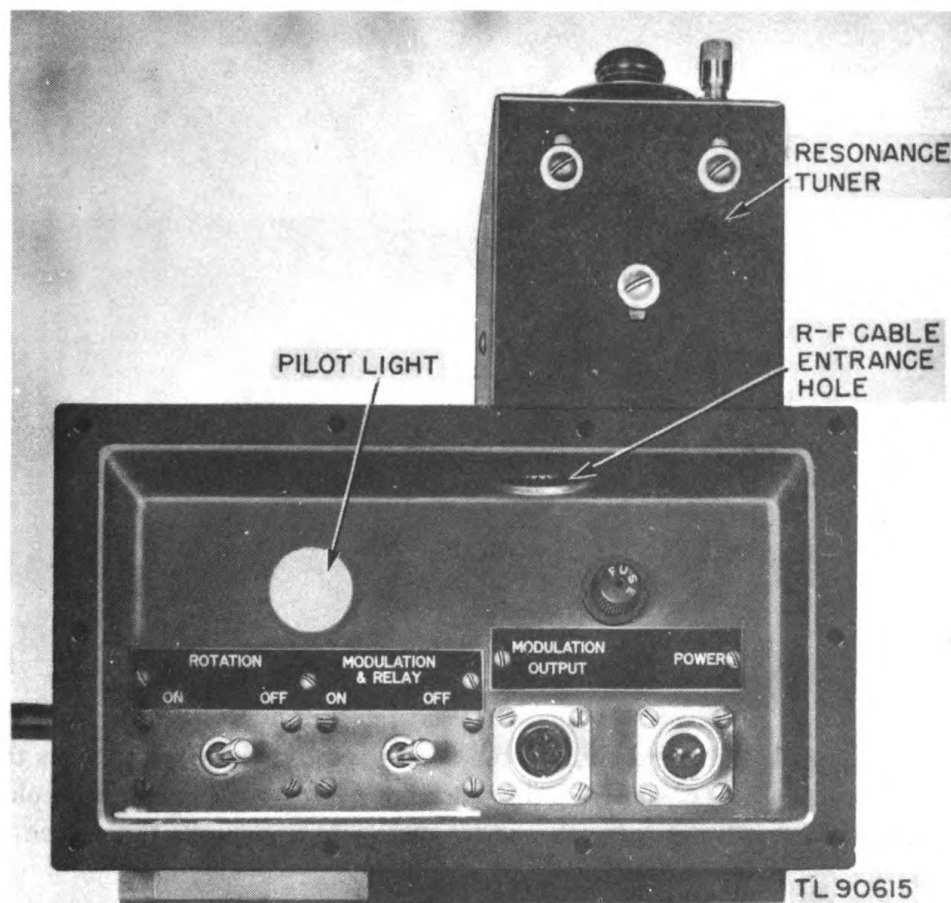

Figure 12. Control Panel PN-26.
a. The control panel (fig. 12), is recessed in the bottom of the antenna mount and is protected from the weather by a canvas flap. All external connections to the beacon are made through this panel. The r-f cable from the transmitter is attached to the resonance tuner through a large opening in the top of